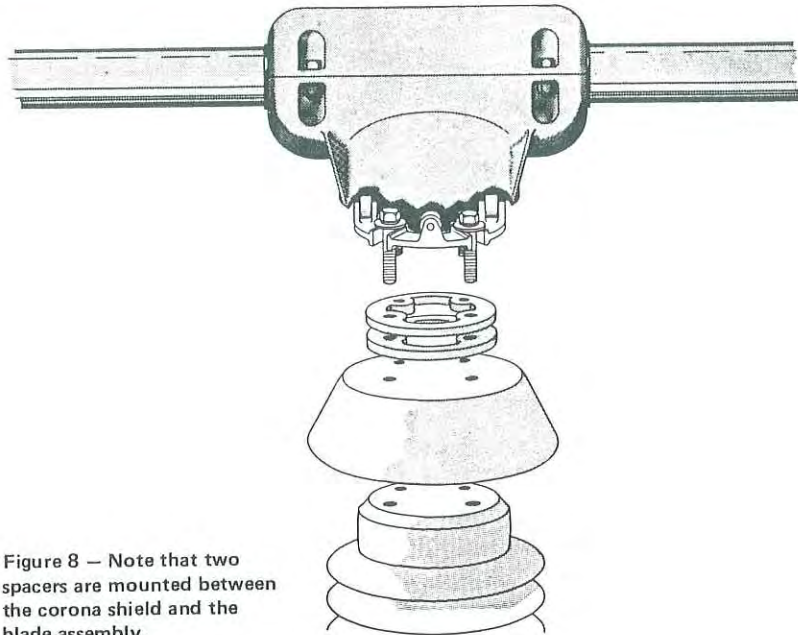

Figure 8 — Note that two spacers are mounted between the corona shield and the blade assembly.
7. Mount the blade assembly, ("watermelon,") as shown in figure 8. *Note: The blade assembly must be oriented on the center stack so as to allow an additional 45 degrees of stack rotation after the blade tips enter the jaws. This is essential, as it provides blade rotation into the contacts, which establishes high contact pressure.*